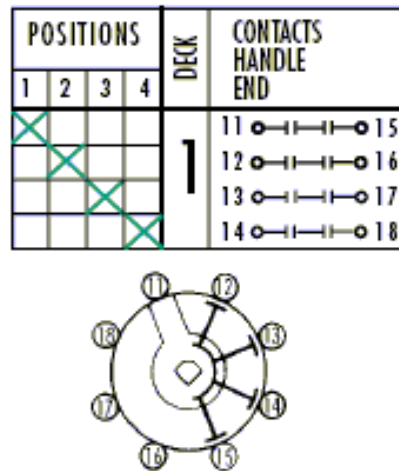

Fig.20 Double break switching.
8. This configuration allows pair of circuit to be fed from common source (Fig.20).